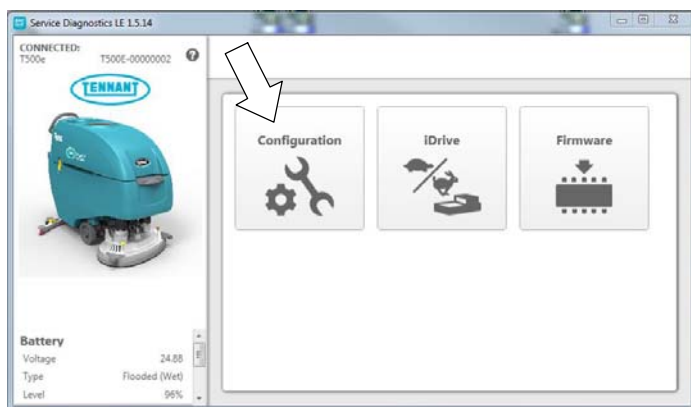

Fig. 24
6. From the Home screen, press the Configuration button (Figure 24).